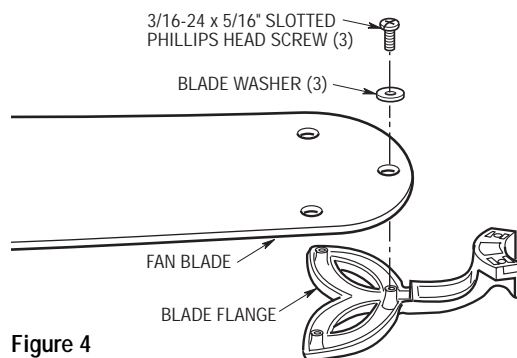

Figure 4
7. Mount blade flanges to fan blades using three 3/16-24 x 5/16" slotted Phillips head screws and three blade washers (Figure 4).